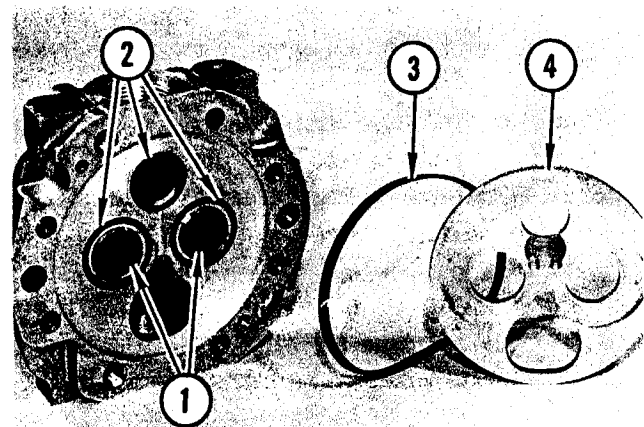

FIGURE 4. PUMP COVER REASSEMBLY
4. Refer to Figure 4. Press bushings (1) into pump cover until they are against shoulder in bore. Install small "O" rings and back-up rings (2) in that order. Install large "O" ring (3) in face of pump cover and